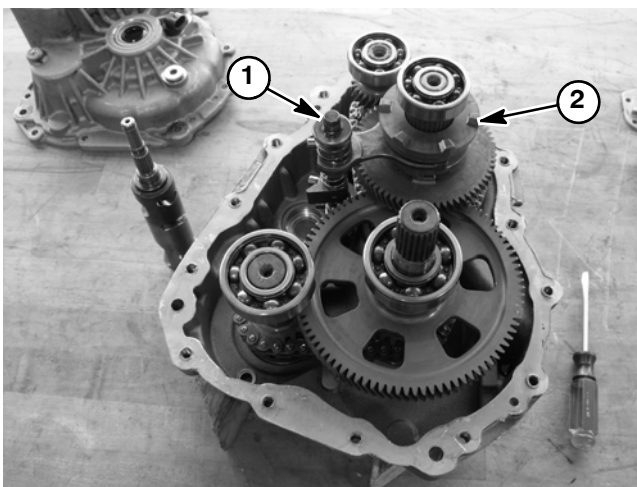

Figure 66
7. Install shift shaft rail (Fig. 55 item 40) with attached shift forks into transmission. Make sure that shift forks are properly placed in grooves on park shift and engagement dogs (Fig. 55 items 42 and 48) on reverse shaft (Fig. 66).